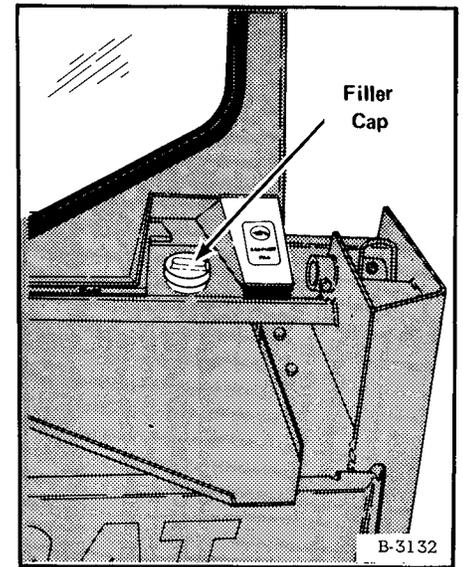

Fig. 1-10 Fuel Filling (520)
Remove the filler cap to service the fuel tank as follows: (Fig. 1-10 & 1-11)
- (1) Ignition must be in off position and engine must be cooled.
- (2) Add fuel only in an area which has good air movement and is free from sparks. (NO SMOKING.)
- (3) Use a clean approved safety container to add fuel to the fuel tank.
- (4) Lower the spill guard (Fig. 1-10).
- (5) Use only clean fuel to fill the tank.
- (6) Be sure to tighten the cap on the filler pipe.